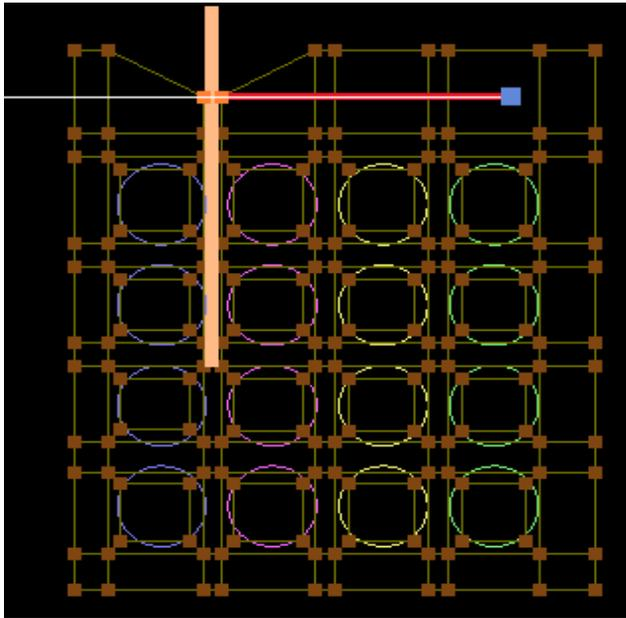

Figure 30.3
- Click on mv the button in the topo sub-comamnd panel and move the cut-plane slightly lower as shown in figure 30.3.